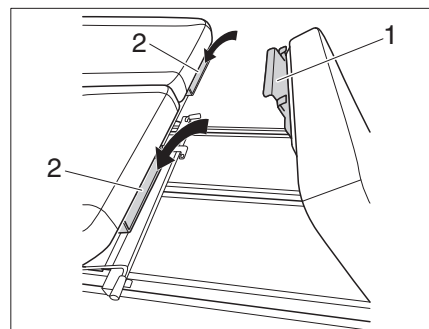

Fig. 4 Attach the bed extension
- Hook the clips (Fig. 4,1) of the bed extension into the brackets (Fig. 4,2) under the seat bench.